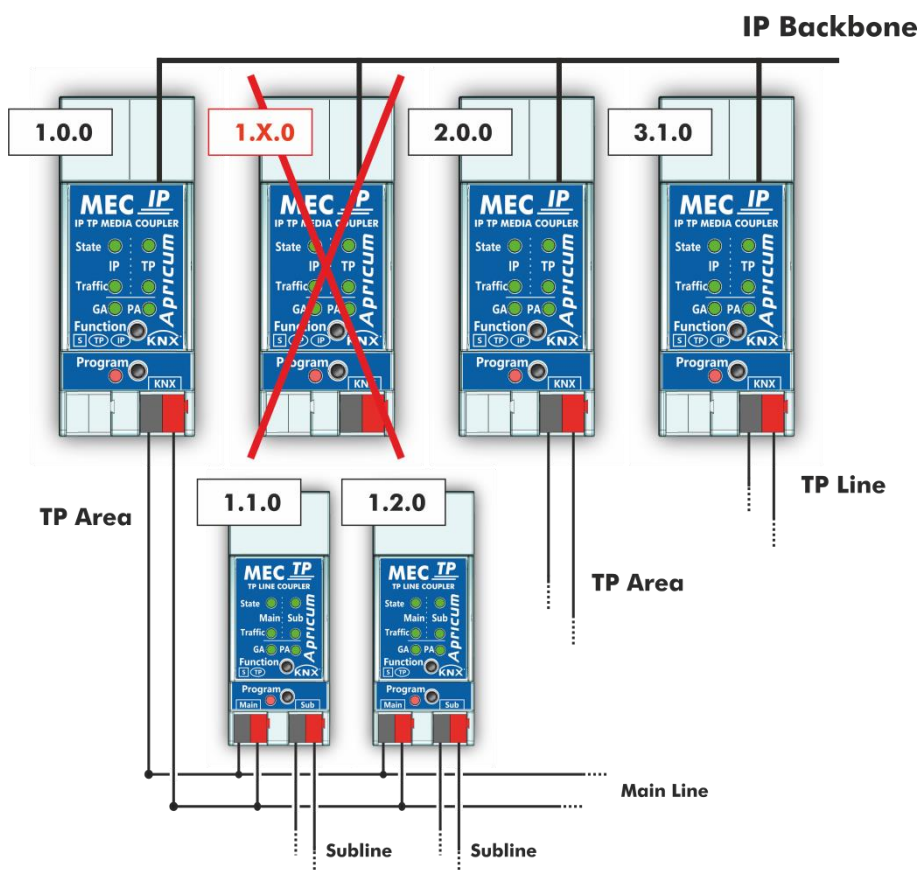

Figure 3: MECip Network Topology
**Example:** If a KNX IP router with address 1.0.0 already exists on the backbone no KNX IP router with address 1.x.0 can be added here. Even if no line coupler with address 1.1.0 exists on the subline of the 1.0.0 router. Vice versa, when line couplers with addresses 1.x.0 already exist in an installation, an IP router with address 1.0.0 cannot be added differently as shown in Figure 3.